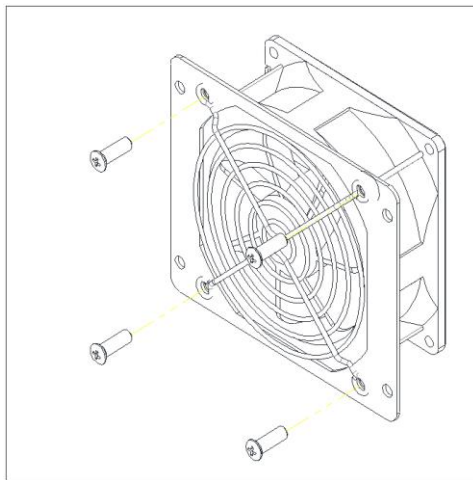

Figure 8-3 Replace Cooling Fans
3. Use a no. 2 Phillips head screwdriver to remove four (4) screws fixing every fan (Figure 8-3):